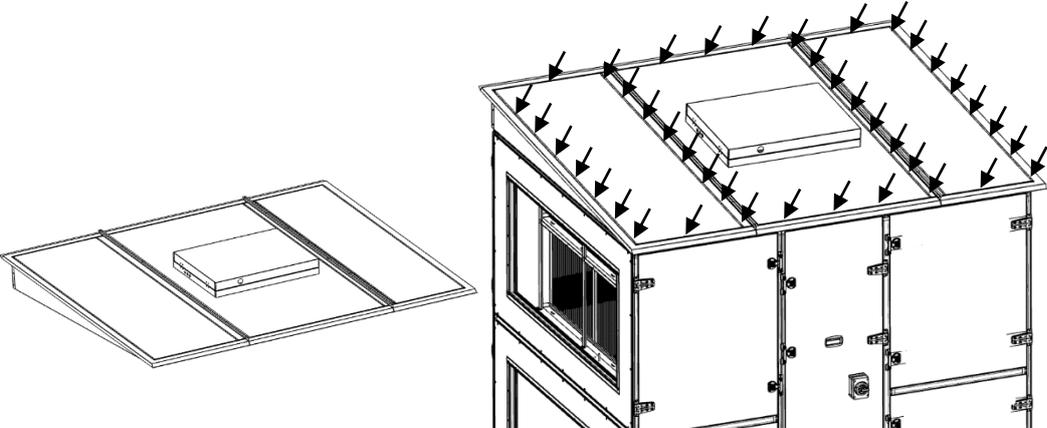

Fig. 132
7. Place the weather roof top sheets to top of the assembly, and screw in the opened holes (Fig. 132).